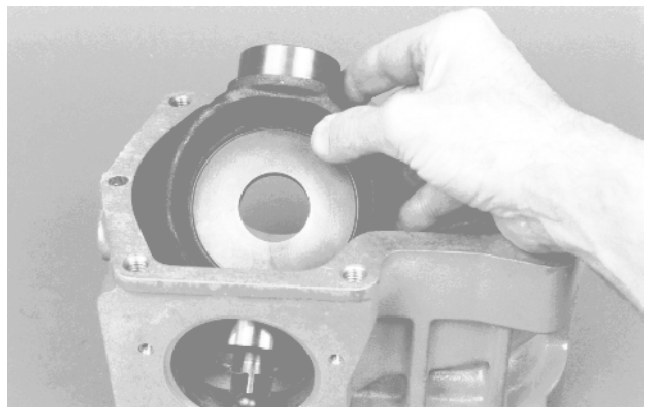

Figure 58
2. Install swashplate into housing. Make sure swashplate control shaft is located on correct side of housing (note marks made during disassembly) (Fig. 58).